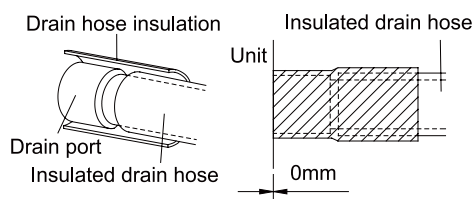

Fig.17
9. Be sure to insulate where the drain port and the drain hose is connected.(Fig.17)